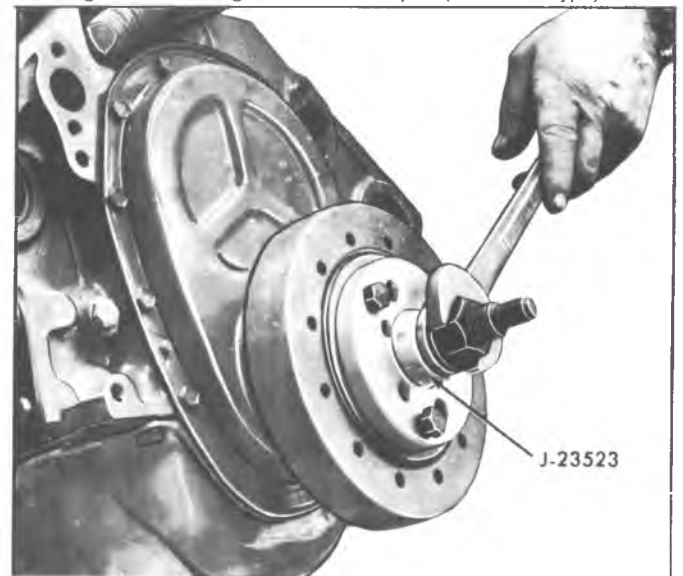

Fig. 12--Installing Torsional Damper (Pull on Type)
- c. Using Tool J-23523 pull damper onto crankshaft (fig. 12).